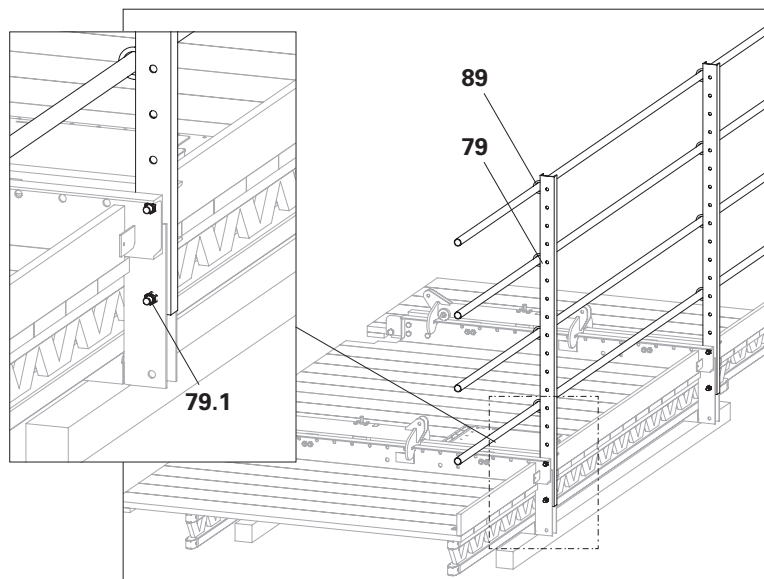

Fig. C2.04
2. Screw the scaffolding tubes  $\varnothing$  48 to the guardrail post with clamp A64 (**89**), see Section "Guardrails" on page 52. (Fig. C2.04)